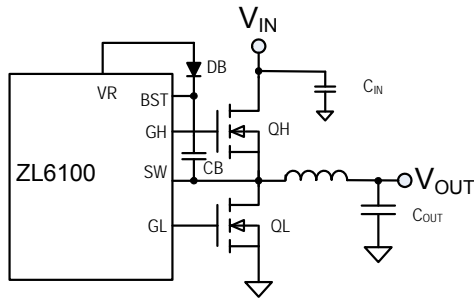

FIGURE 4. SYNCHRONOUS BUCK CONVERTER
Figure 4 illustrates the basic synchronous buck converter topology showing the primary power train components. This converter is also called a step-down converter, as the output voltage must always be lower than the input voltage. In its most simple configuration, the ZL6100 requires two external N-channel power MOSFETs, one for the top control MOSFET (QH) and one for the bottom synchronous MOSFET (QL). The amount of time that QH is on as a fraction of the total switching period is known as the duty cycle *D*, which is described by Equation 1:
Typically, buck converters specify a maximum duty cycle that effectively limits the maximum output voltage that can be realized for a given input voltage. This duty cycle limit ensures that the lowside MOSFET is allowed to turn on for a minimum amount of time during each switching cycle, which enables the bootstrap capacitor (CB in Figure 4) to be charged up and provide adequate gate drive voltage for the high-side
The gate drive voltage for the high-side MOSFET driver is generated by a floating bootstrap capacitor, CB (see Figure 4). When the lower MOSFET (QL) is turned on, the SW node is pulled to ground and the capacitor is charged from the internal VR bias regulator through diode DB. When QL turns off and the upper MOSFET (QH) turns on, the SW node is pulled up to V_{DD} and the voltage on the bootstrap capacitor is boosted approximately 5V above V_{DD} to provide the necessary voltage to power the high-side driver. A Schottky diode should be used for DB to help maximize the high-side drive supply voltage.